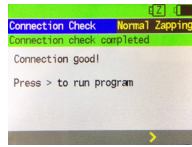

Fig. 19
- **Successful:** if the connection check is successful select  to run the program (Fig. 19).